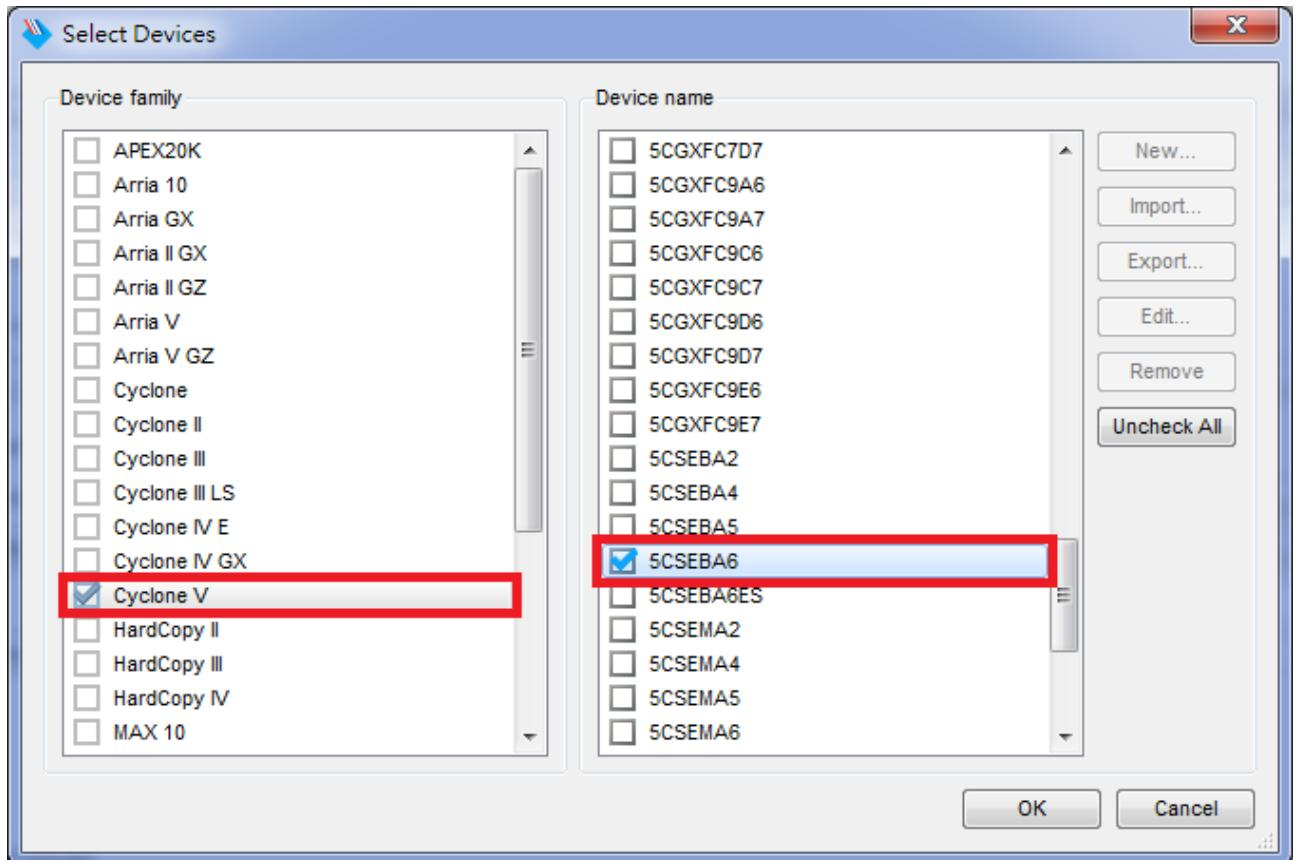

Figure 8-5 “Select Devices” page
11. The **Select Devices** page will appear, please select the targeted FPGA to be programmed into the EPICS, as shown in **Figure 8-5**.